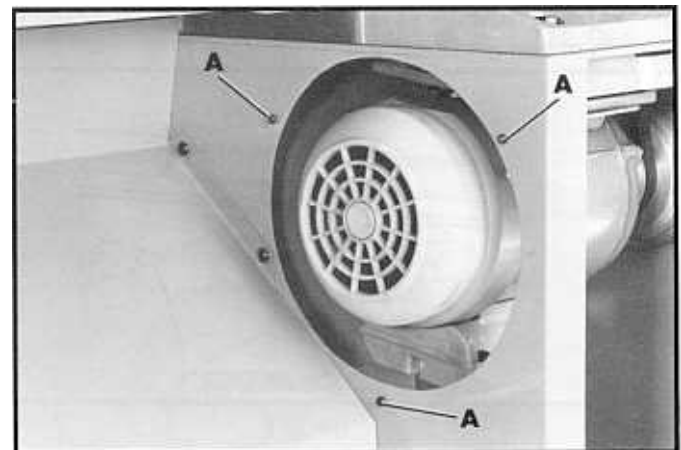

Fig. 15
1. Remove the three screws (A) Fig. 15.